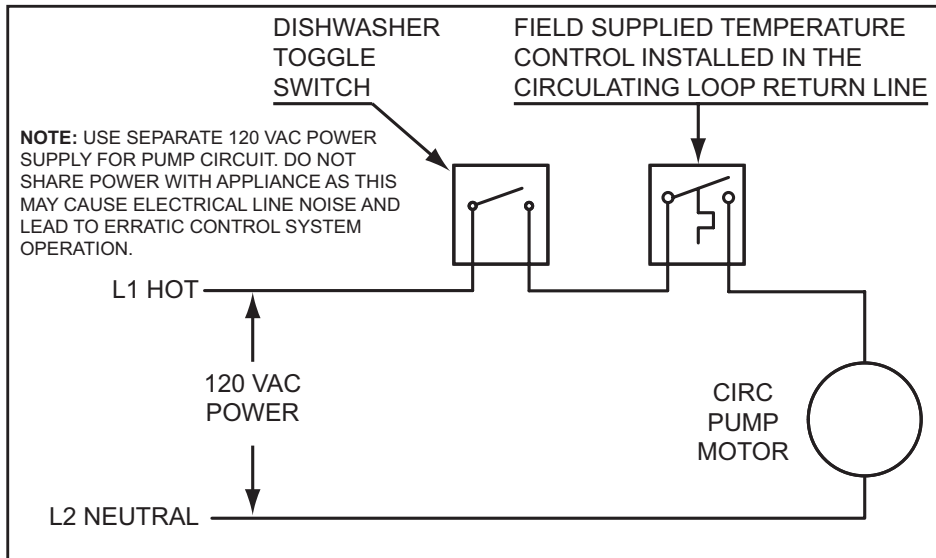

Figure 63
7. If a pump is being installed in a recirculation loop between the water heater and a commercial dishwasher wire according to Figure 63 on page 69.